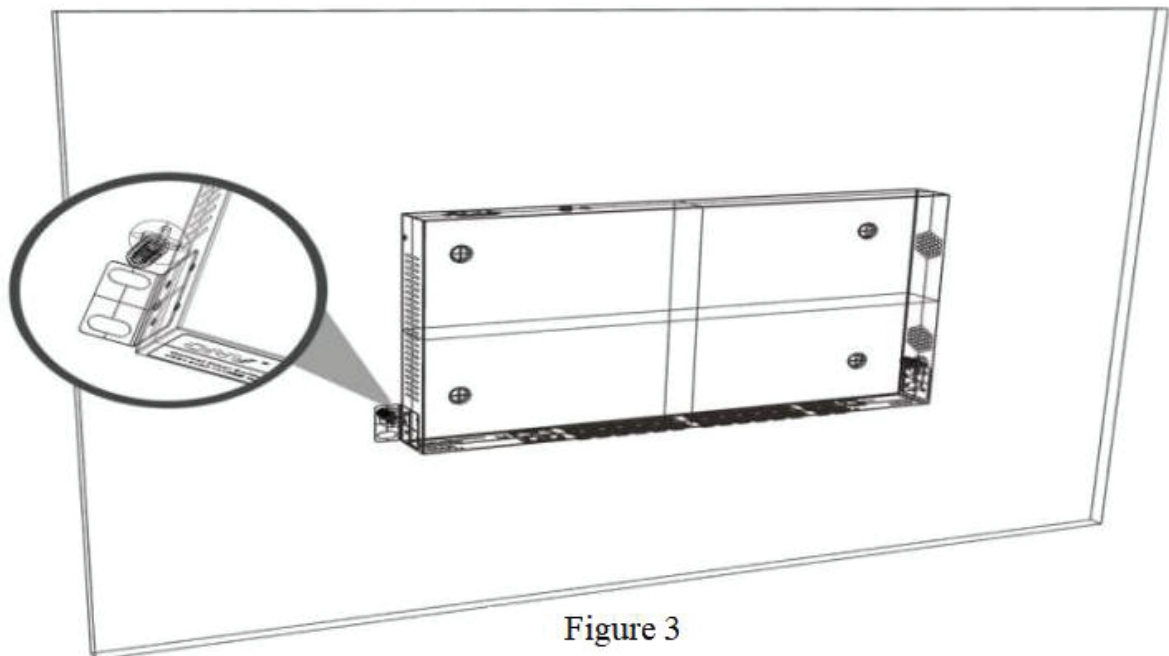

Figure 3
Step 2: As shown in Figure 3, put the switch in a suitable installation position. If the installation wall is a wooden board, use self-tapping screws to fix it. If the installation wall is a concrete wall, you need to drill holes + swelling screws to fix it.